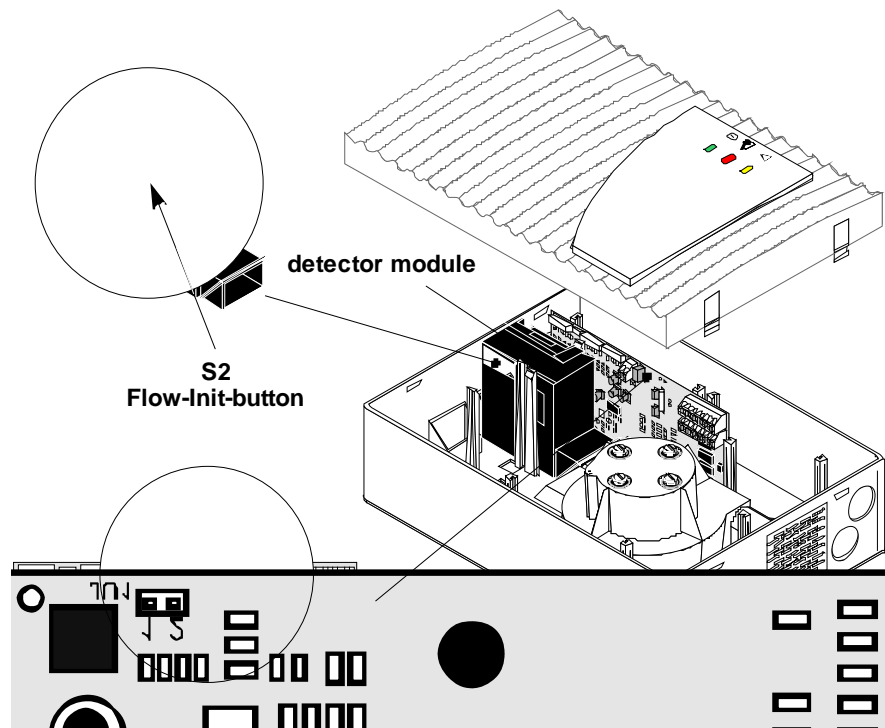

Fig. 7.2: Adjustment independent of the air pressure of the air flow sensor of Honeywell ALL-SPEC
4. Press the Flow-Init-button S2 on the detector module of Honeywell ALL-SPEC (refer to Fig. 7.2).